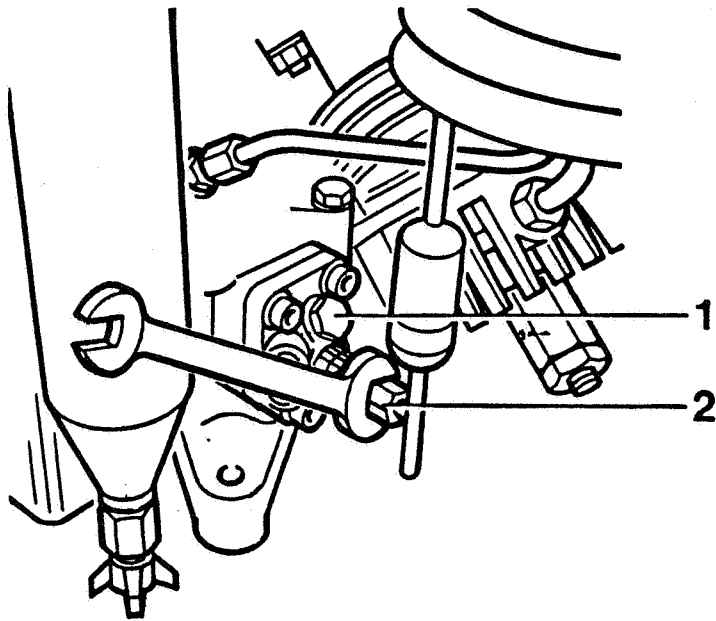

Fig. 2.2 Venting oil pump
Refer to Fig. 2.2. Loosen vent screw (1) by one or two turns until oil emerges free of air-bubbles. Then tighten vent screw (1).